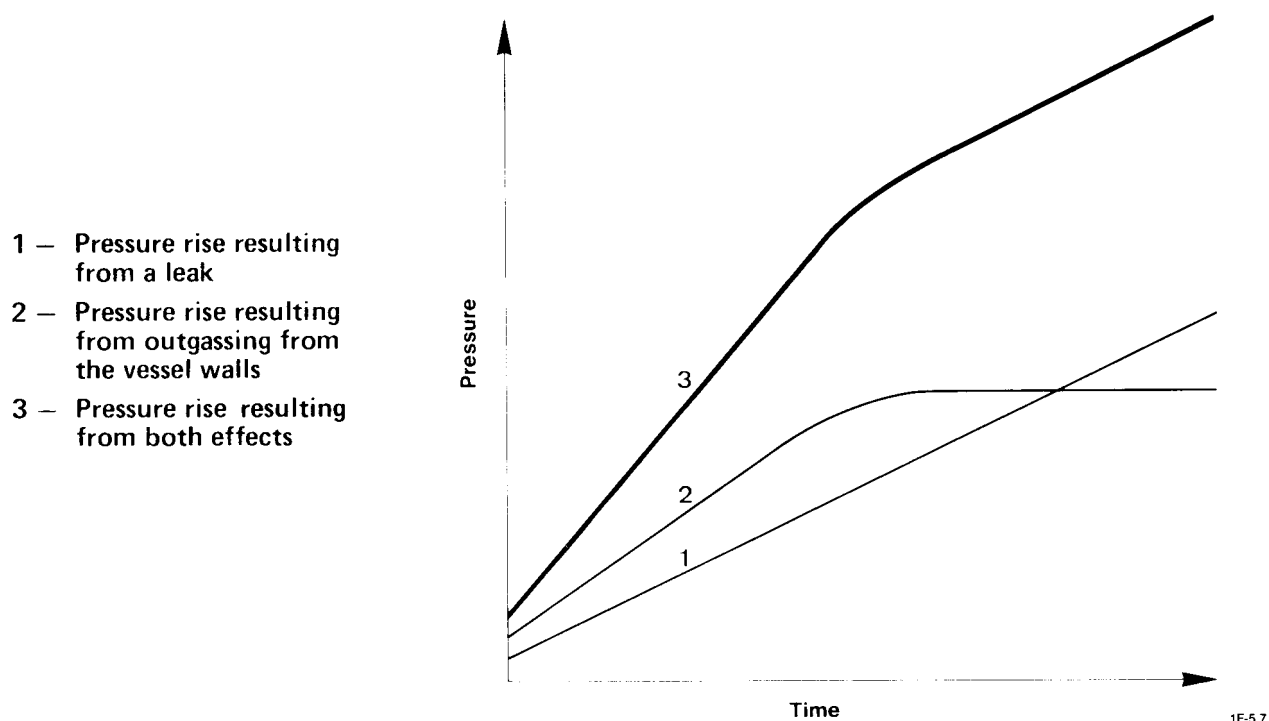

Figure 8-2 - Graph of Pressure Rise Vs. Time from Leaks and/or Outgassing
5. Compare your graph to the graphs in Figure 8-2 to determine if the problem is contamination or leaks. See Section 8-2-4 to eliminate contamination or Section 8-2-3 to leak check the mass spectrometer/cold trap section of the leak detector.
6. Compare your graph to the graph in Figure 8-2 to determine if the meter instability is contamination or leaks. See Section 8-2-4 to eliminate contamination or Section 8-2-3-3 to leak check the valve block.